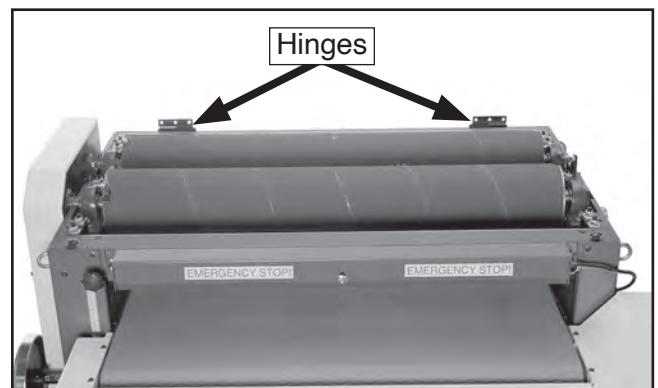

Figure 13. Location of hinges.
2. Place top cover on sander, align hinges (see **Figure 13**) with holes in cover, then secure with screws removed in **Step 1**.